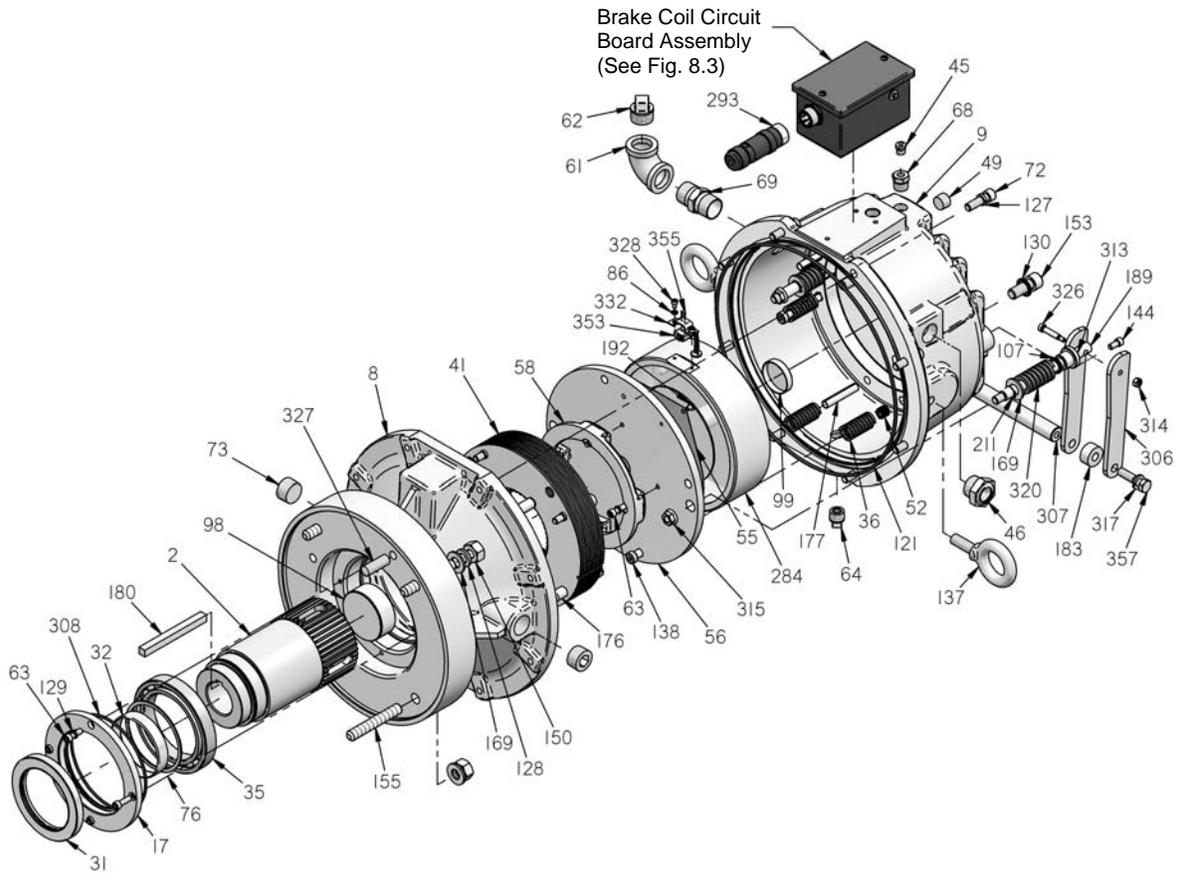
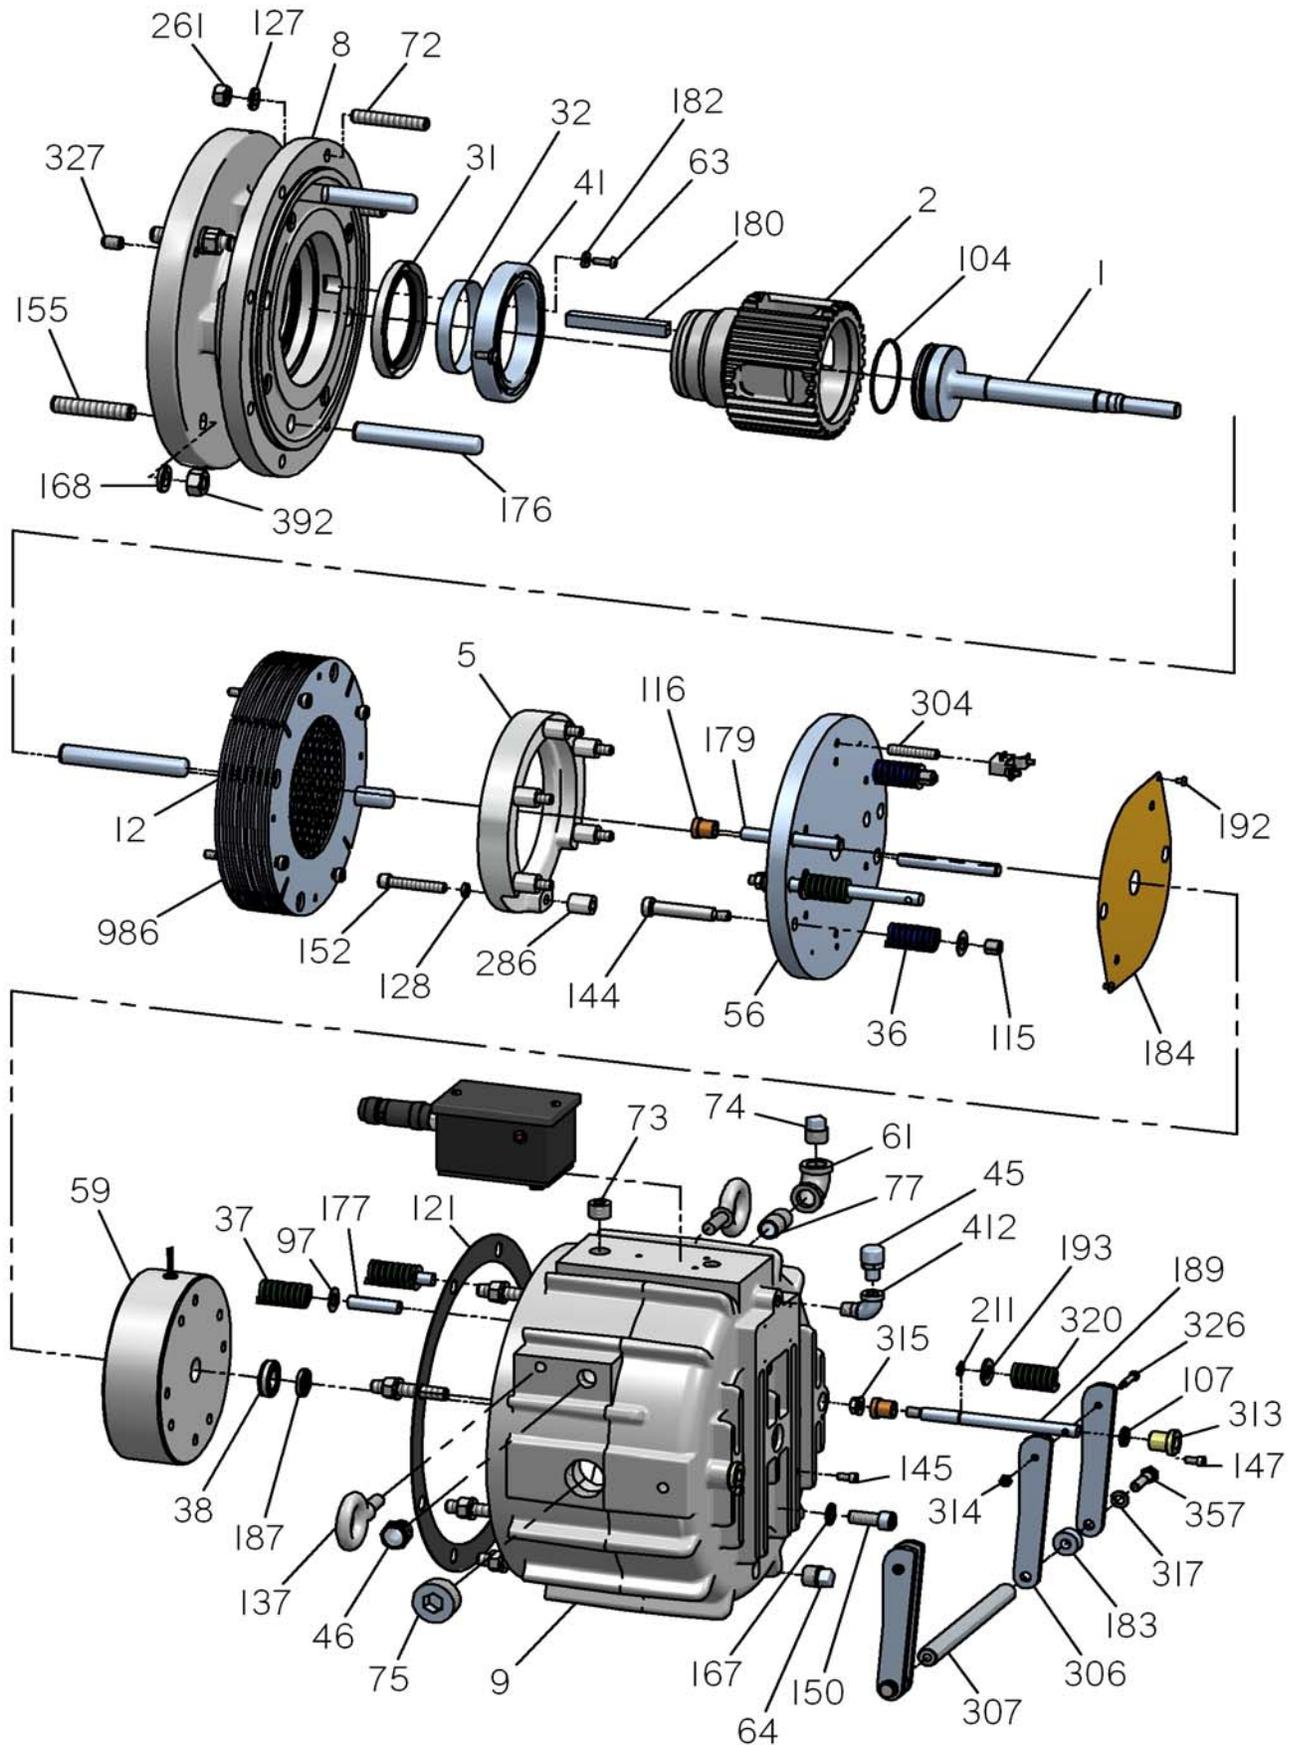

Figure 8.1.1 - Repair Parts - MSB8 MagnaShear Motor Brake
Figure 8.1 - Repair Parts - MSB9 and MSB10 MagnaShear Motor Brake
*(MSB8 Figure 8.1.1) - (MSB9 and MSB10 Figure 8.1)*